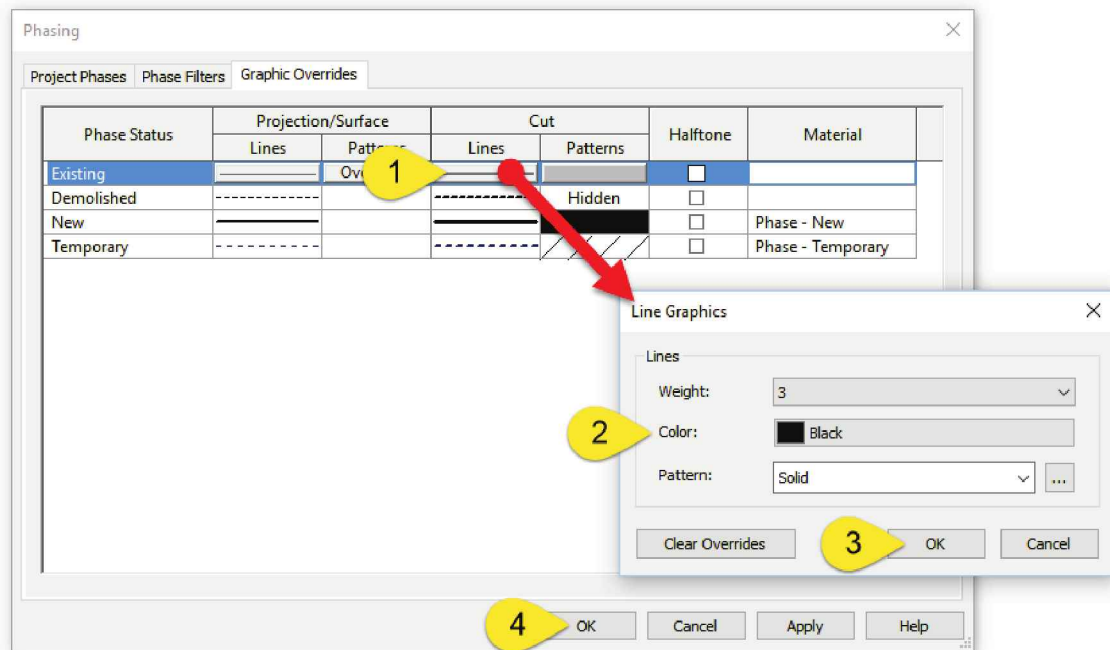

FIGURE 17-3.6 Graphic Overrides tab; Phasing dialog
14. Make the following change in the Phases dialog to adjust the lines to black for existing elements (Figure 17-3.6).